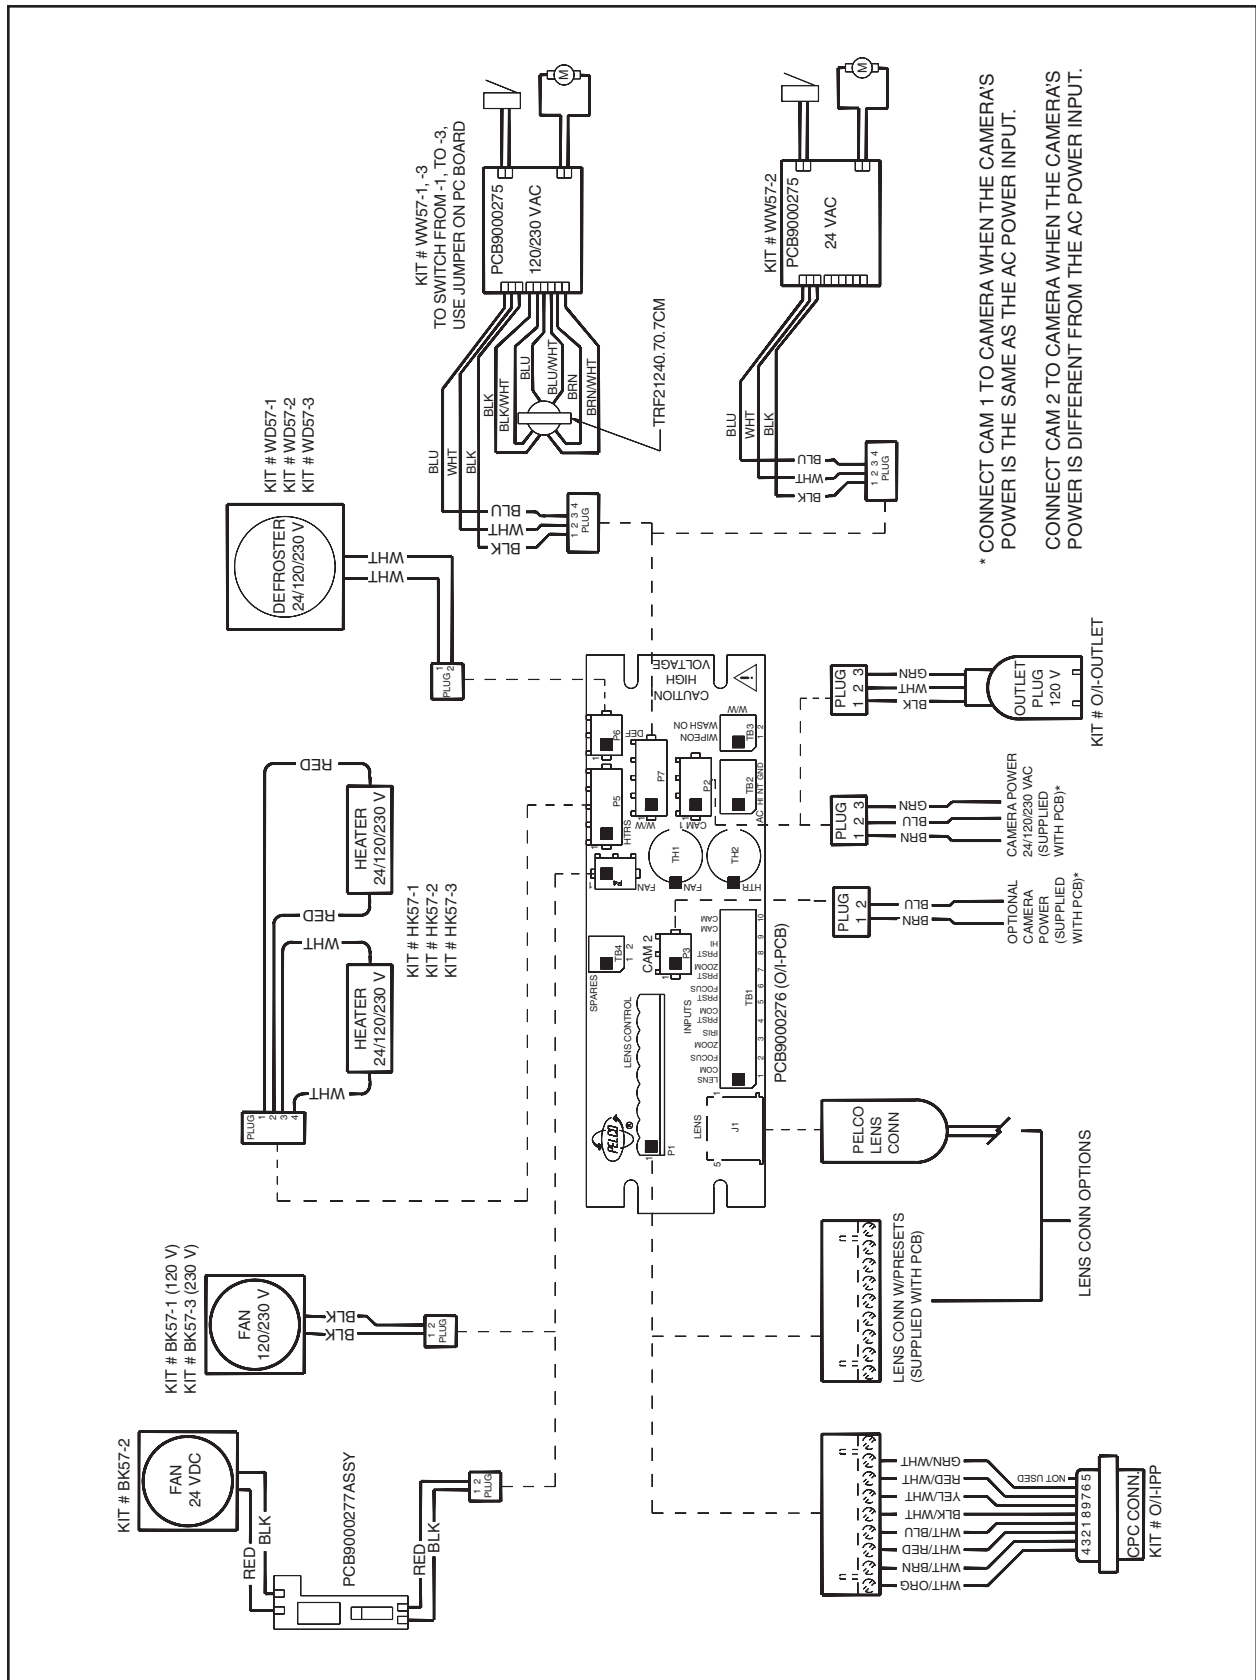

Figure 2. EH5700L Series Input Wiring Diagram
8. If your camera has a motorized zoom lens control, connect or wire the camera's lens control to the LENS or LENS CONTROL connector on the circuit board. Refer to Figure 2 to see where to connect different lens connector options.
9. Wire power from the circuit board to the camera (refer to Figure 2).